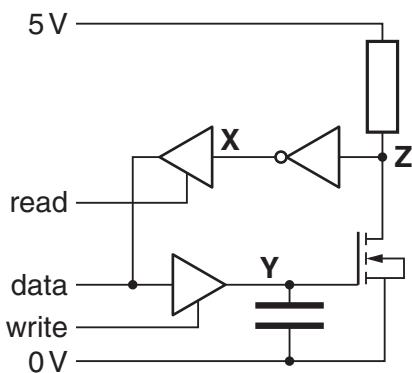

Fig. 1.1
- 1 Fig. 1.1 shows a memory cell.
- (b) State why a tri-state is used in Fig. 1.1 to connect X to the data-bus.
- (d) Explain how the components in Fig. 1.1 allow the 1 to be read at a later time.